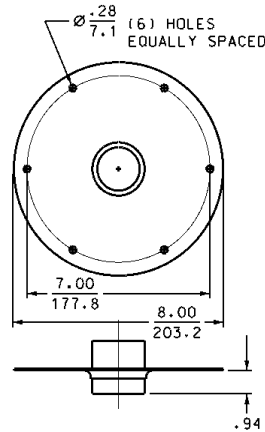

Figure 4
**TOP MOUNT** (For mounting plate options see figure 4 on page 6)